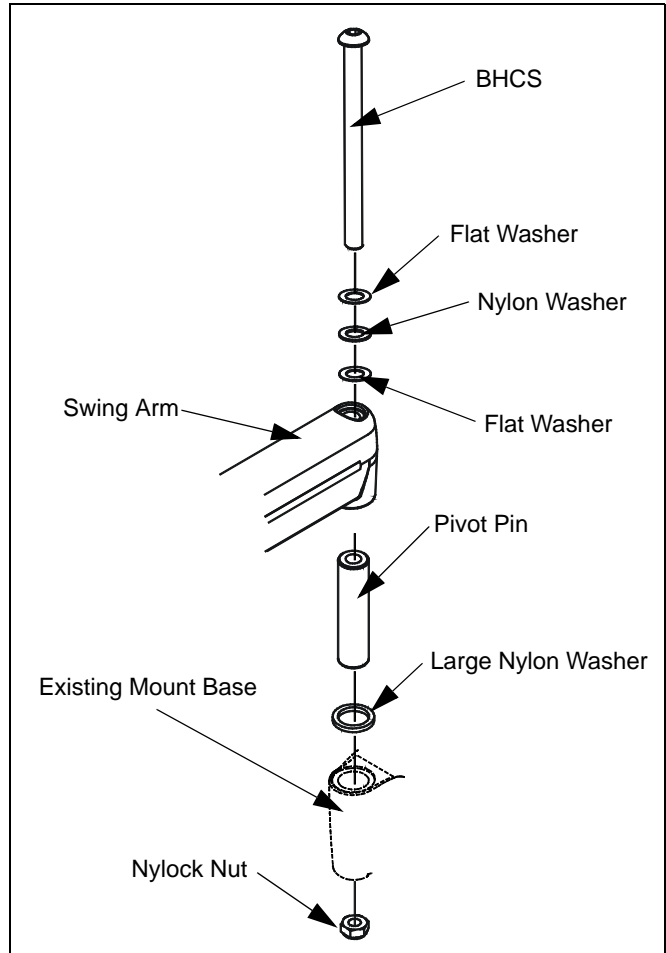

Figure 2: Remove Mount from Existing Base
2. Loosen button head cap screw securing swing arm to base on existing mount using a 5/32" hex key (40). (see Figure 2)
3. Uninstall button head cap screw, one nylon washer, and two flat washers from swing arm and set aside for reuse. (see Figure 2)
4. Lift swing arm up and off of pivot pin and set aside for reuse. (see Figure 2)
5. Remove large nylon washer, pivot pin, and Nylock nut from existing mount base and set aside for reuse. (see Figure 2)